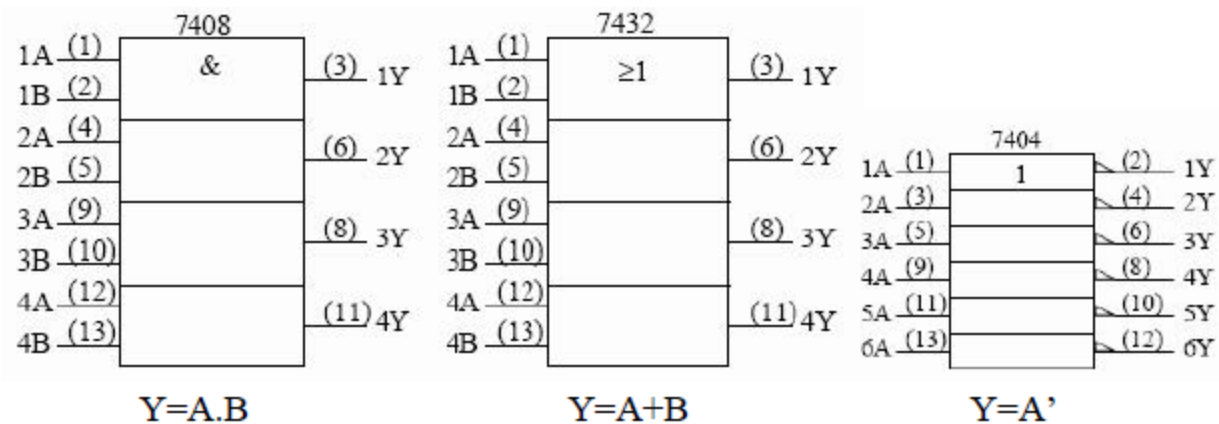

Figure 1: Standard Logic Symbols
- Logic-Gates are basic building blocks of digital circuits. Using these building blocks, complex functions or larger digital circuits can be built. Examples of the basic logic gates are **AND, OR, NOT, NAND and NOR**. A complex gate such as an **XOR** gate can be built out of these basic gates. Each logic gate is actually implemented in part of an integrated circuit (IC), with each gate made using several transistors.
- For the most part we do not need to concern ourselves with the actual circuitry inside each gate, only the interconnections between individual gates. Usually each IC package contains several individual gates. The 7408 chip implements 4 two input AND gates and is commonly referred to as a “Quad two input AND” chip. Similarly the 7432 chip is a “Quad 2 input OR” chip while the 7404 chip is a “Hex Inverter” since it contains 6 inverters. The IEEE standard logic symbols for each of these devices are shown in Figure 1.
Each of the chips in Figure 1 is available in 14 pin Dual-In-Line packages or DIPs. In a popular logic family called TTL (Transistor-Transistor Logic), the low logic level is assigned to 0V and the high logic level is assigned to 5V. Each IC or chip has an ID number that can be referenced in IC Data Book. From the book, you can get the pin configuration of that chip.